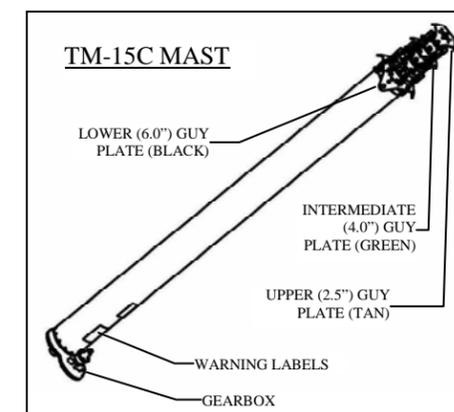
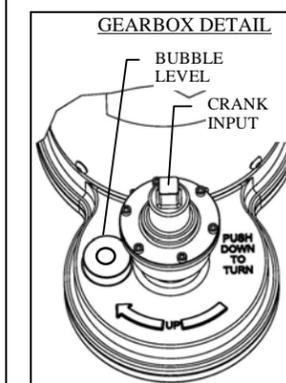

Figure 12
Figure 13
20. Using the bubble level, make final adjustments to the guy lines to set the mast vertical. The bubble must be completely inside the inner circle on the indicator before the mast is extended. See Figs. 12 and 13.
22. Place the hand crank onto the gearbox, push down approximately 1/4 inch (6 mm) to disengage the brake and crank clockwise to extend the mast. Maintain a constant downward pressure to keep the lock disengaged and use a steady, even cranking speed. In the event of a jam, stop and crank in the reverse direction approximately five turns, then retry. Cranking more slowly will help to clear a jam. See Fig 12 and Fig. 13.
3. Place the hand crank onto the gearbox, push down approximately 1/4 inch (6 mm) to disengage the lock, and crank counter-clockwise to retract the mast. Maintain a constant downward pressure to keep the lock disengaged and use a steady, even cranking speed. In the event of a jam, stop and crank in the reverse direction approximately five turns, then retry. Cranking more slowly will help to clear a jam. (Ref. Fig. 13)
- (i) Verify that the bubble level is attached to the gearbox and is operational. (Ref. Fig. 13)